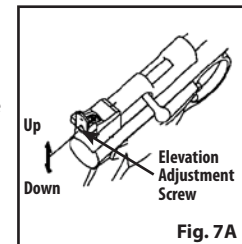

Fig. 7A
- The rear sight may be adjusted to shoot higher or lower (elevation). Loosen the elevation adjustment screw by turning it counterclockwise. Move the sight up to make the pellet hit higher on the target. Move the sight down to make the pellet hit lower on the target. Then tighten the elevation adjustment screw by turning it clockwise (Fig. 7A).